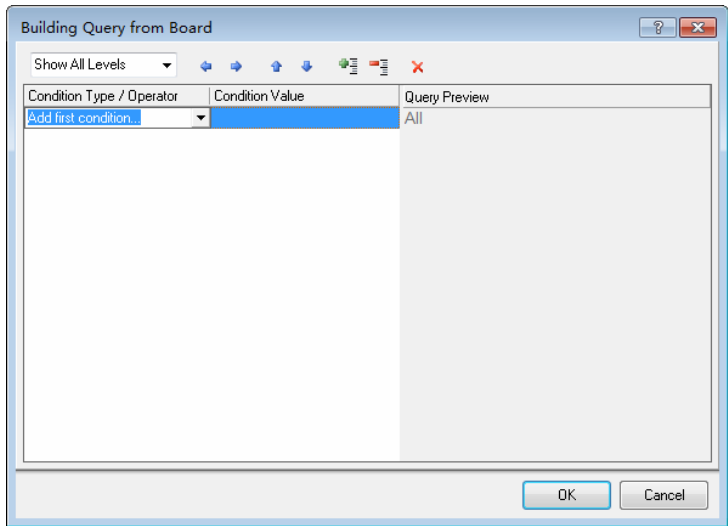

图 12-6 Building Query from Board 对话框
b. Query Builder: 单击该按钮打开 Building Query from Board 对话框, 如图 12-6 所示。